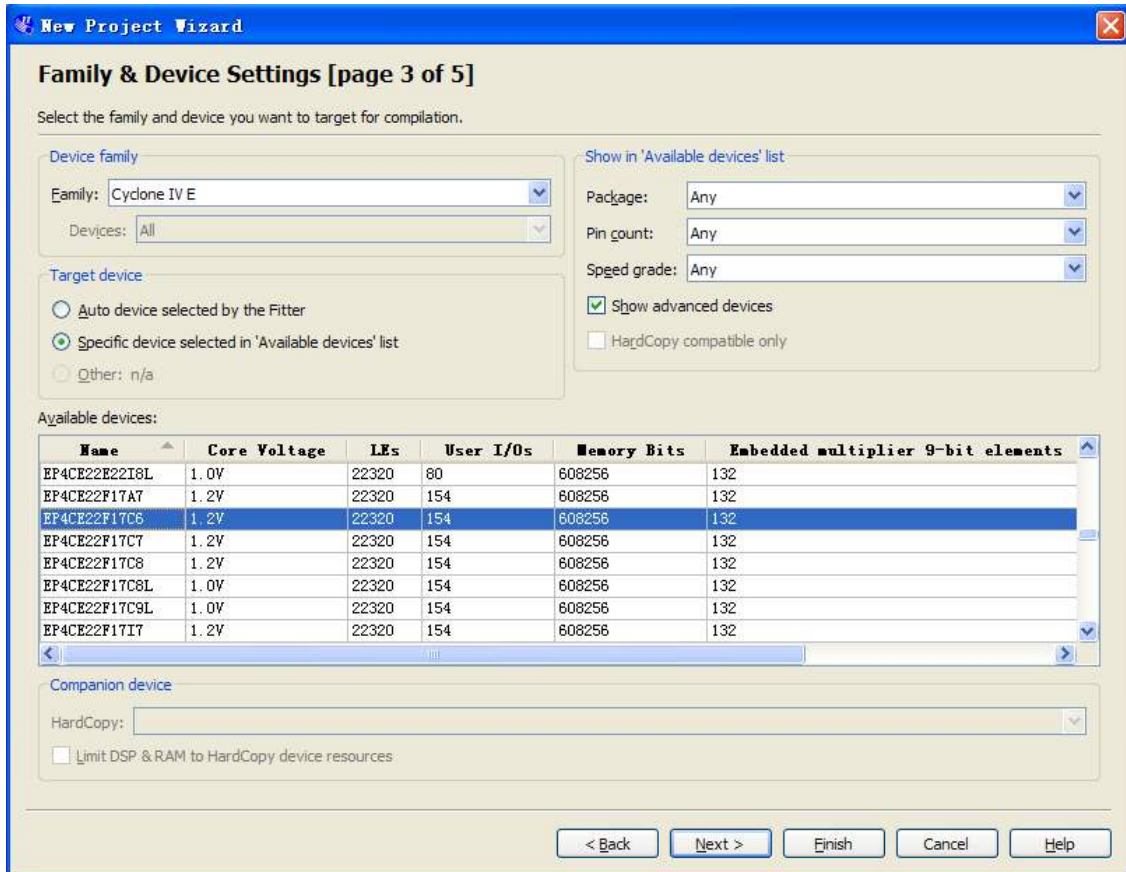
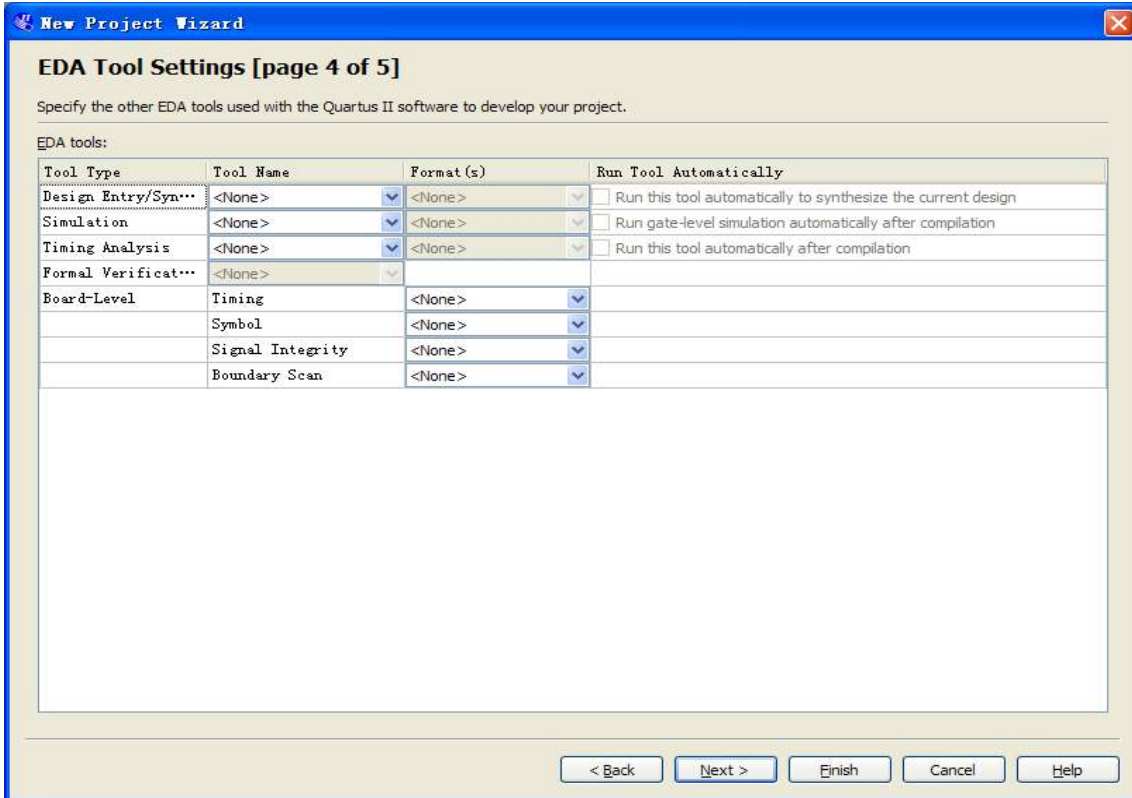

Figure 7-5 New Project Wizard: Family & Device Settings [page 3 of 5]
Figure 7-6 New Project Wizard: EDA Tool Settings [page 4 of 5]
3. Click **Next** to skip in **Add Files** window. In the **Family & Device Settings** window, we will choose device family and device settings appropriate for the DE0-Nano board. You should choose settings the same, as shown in **Figure 7-5**. Then click **Next** to get to the window as shown in **Figure 7-6**.